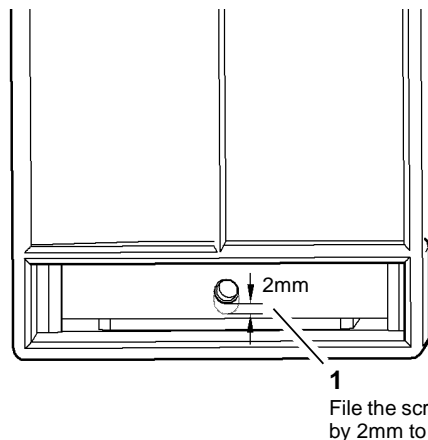

Figure 2 Hole punch blanking assembly
3. Figure 2. Form a slot to allow translational movement (inboard to outboard) during expansion and contraction of the hole punch blanking assembly.